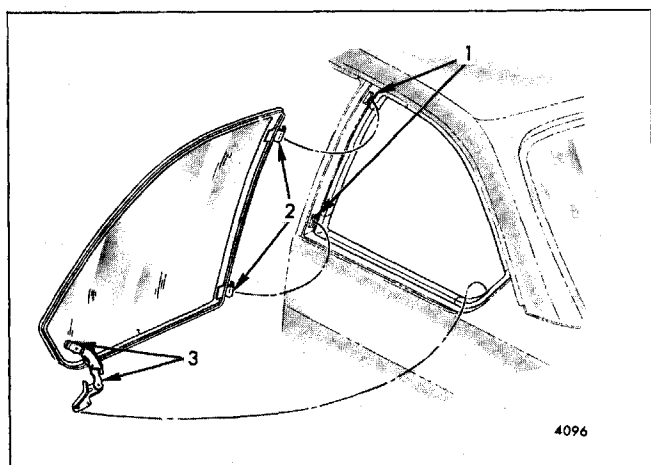

Fig. 6-35-Optional Swing-Out Quarter Window Removal - "H-11 and 77" Styles Shown ("X-17,27" Styles Similar)
3. Swing glass outboard from rear to permit disengagement of hinge straps from hinge pins to body pillar (Fig. 6-35).
1. Position forward edge of glass assembly to the window opening and engage hinge straps to hinge pins (Fig. 6-35).